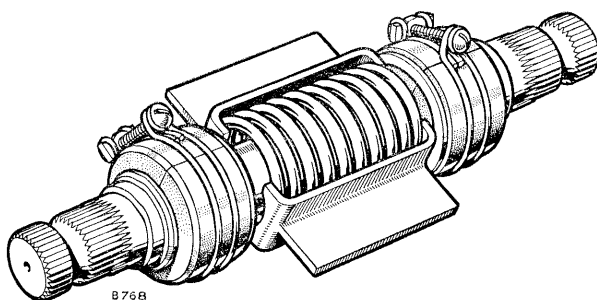

Fig. G-7—Assembling steering relay shaft assembly
4. Slide a second washer over the shaft and fit the second split bush to the shaft, securing it with a hose clip as for the first one (Fig. G-7).